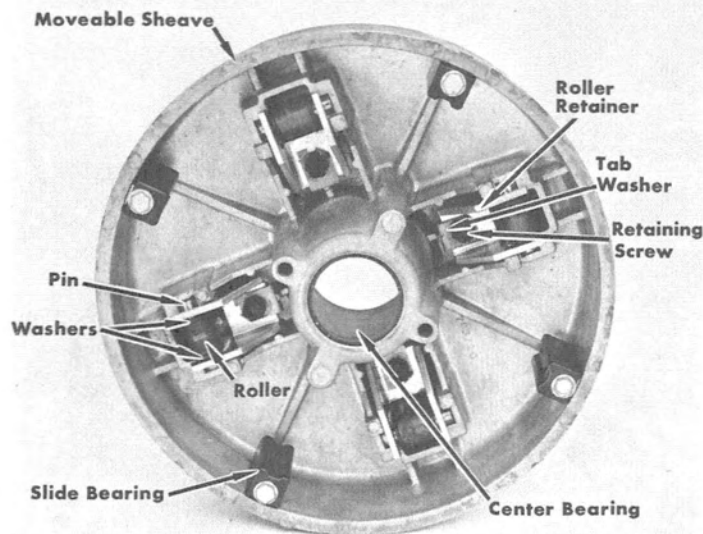

Figure 3. Moveable Sheave and Rollers
- b. Remove screws, tab washers and roller retainers. (Figure 3)
**CAUTION:** DO NOT remove sheave slide bearings or plastic center bearing (Figure 3) unless replacement is necessary.